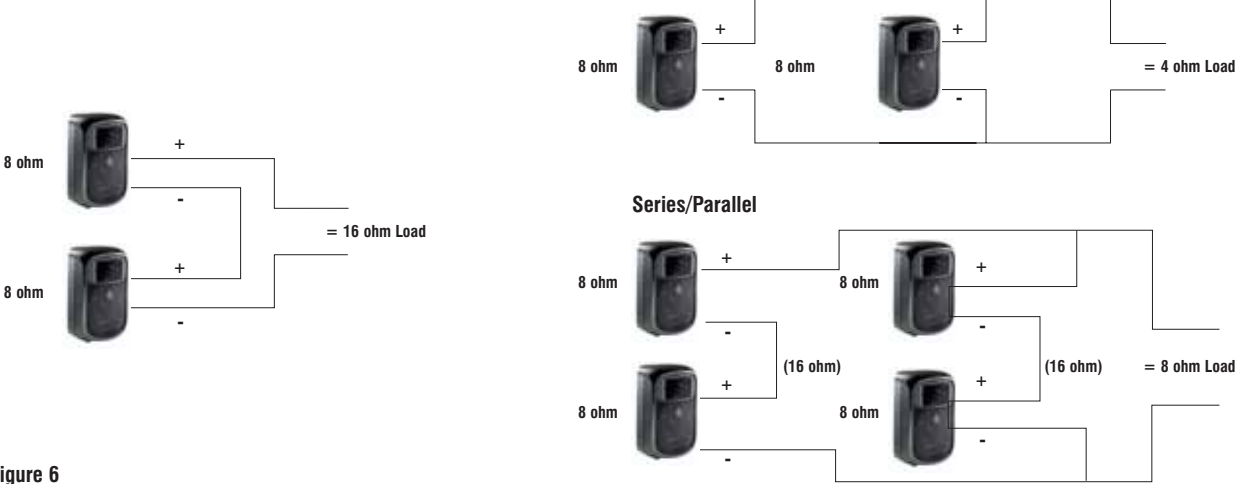

Figure 6
**However, on a constant impedance system, the load must have an equivalent impedance (series/parallel) equal to or greater than the minimum value indicated on the amplifier output. (See Figure 6.)**